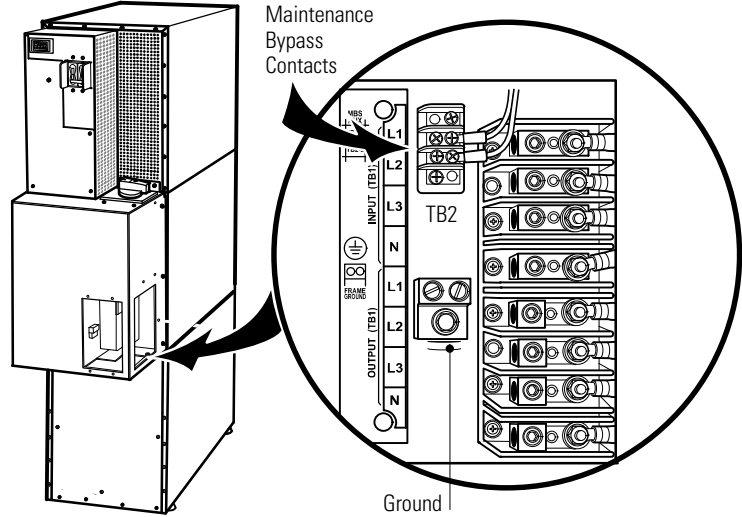

Figure 33. UPS Terminal Block (3-High Shown)
See Table 3 for specifications and Figure 33 for a detailed view of the UPS terminal block.
17. Route the maintenance bypass wires through the conduit to the UPS terminal block (see Figure 33 on page 48).